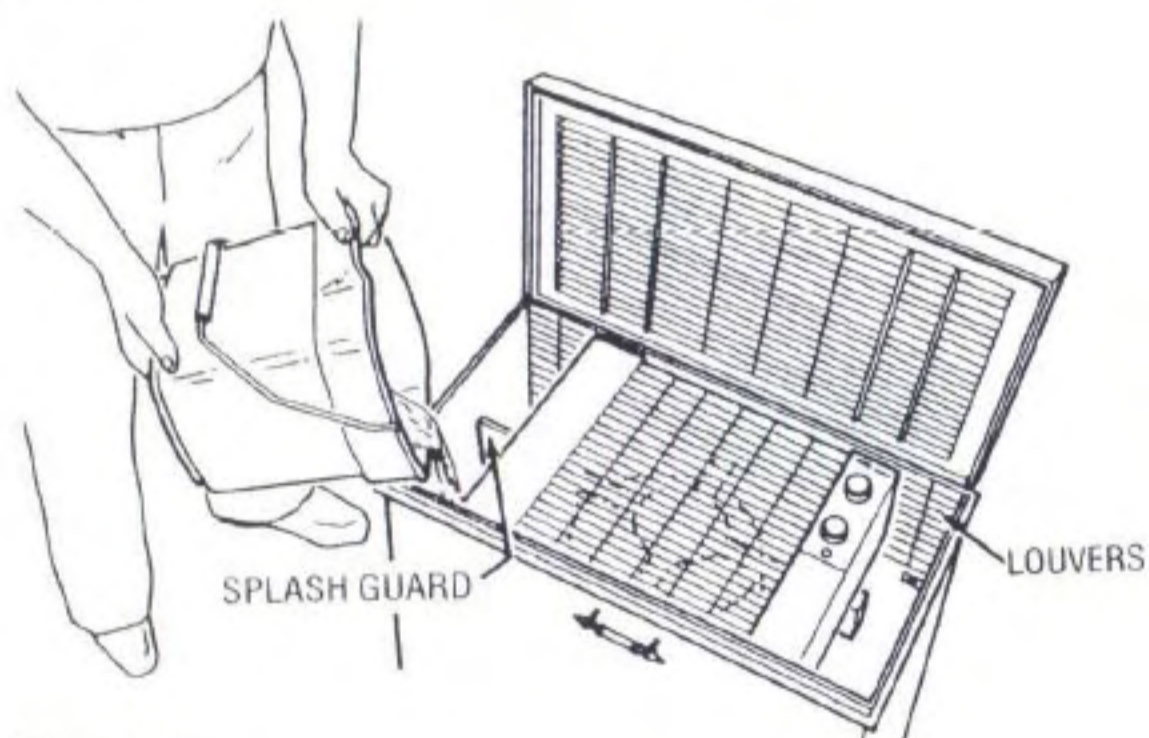

Figure 5
3. Pour water into the humidifier on the left side (opposite side of controls). (See Figure 5.)